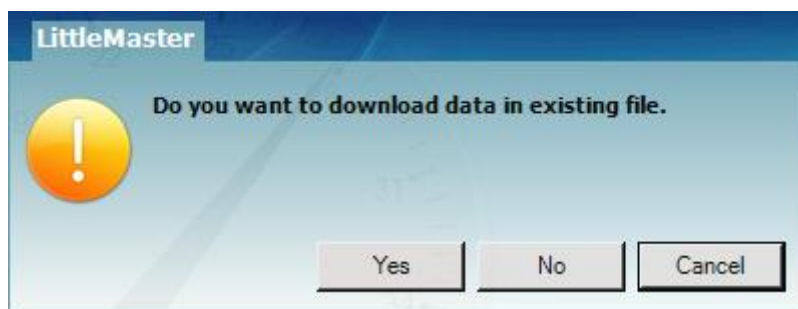

Figure 14 Option for downloading multiple device data in existing file
- Download the first device data and connect the second device to download the data, select option “Yes” in the message pop up as shown in figure 14 for downloading in existing file.